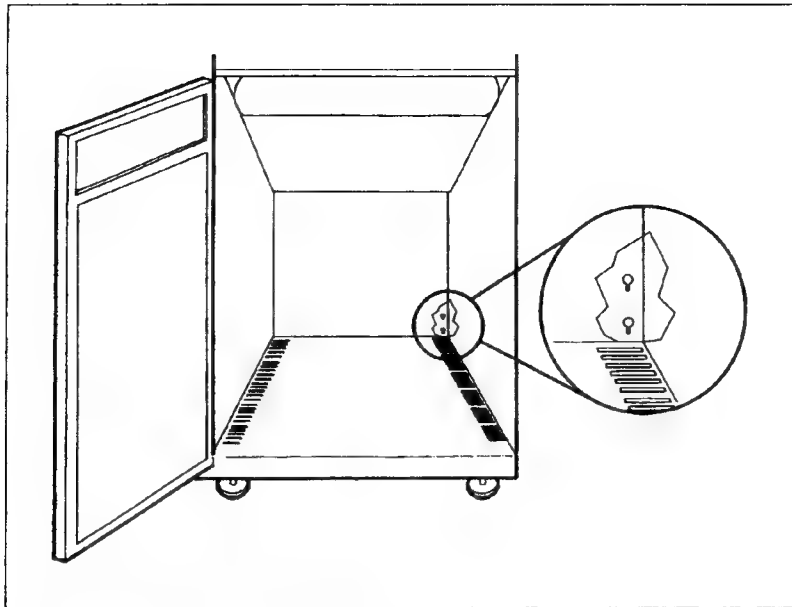

Figure 2-16. Mounting Paper Tray to Printer
- c. Attach the paper tray to the printer. Tighten the screws to the back panel from inside the printer stand. You will need to hold back the soundproofing foam in order to reach the screws (Figure 2-16). (Some cabinets may not have foam.)